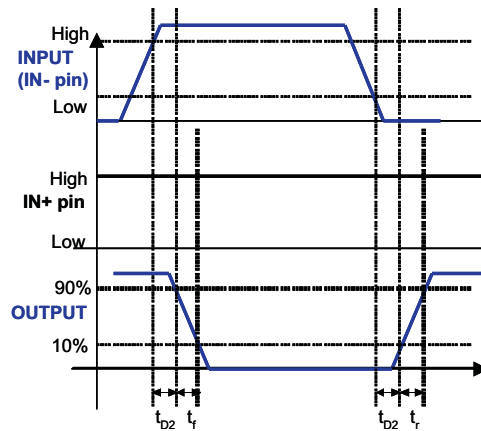

Figure 2. Inverting Configuration (PWM input to IN- pin (IN+ pin tied to VDD), Output represents OUTH and OUTL pins tied together)
(3) See timing diagrams in Figure 1, Figure 2, Figure 3 and Figure 4.